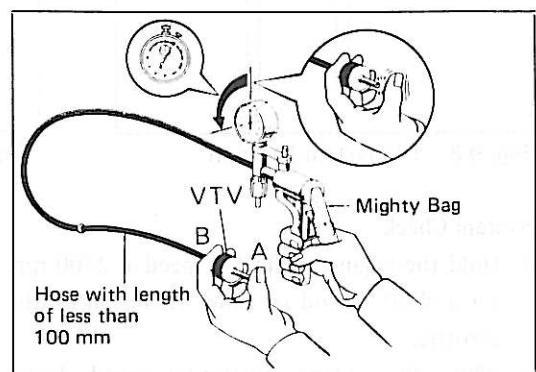

Fig. 9-6 Handling Instructions on Mighty Bag (2)
1. If the atmospheric pressure is allowed to apply suddenly after negative pressure has been created, it might cause the zero-point of the pointer to be deviated. Therefore, make sure to apply the atmospheric pressure gradually by means of the lever, as indicated in Fig. 9-6.